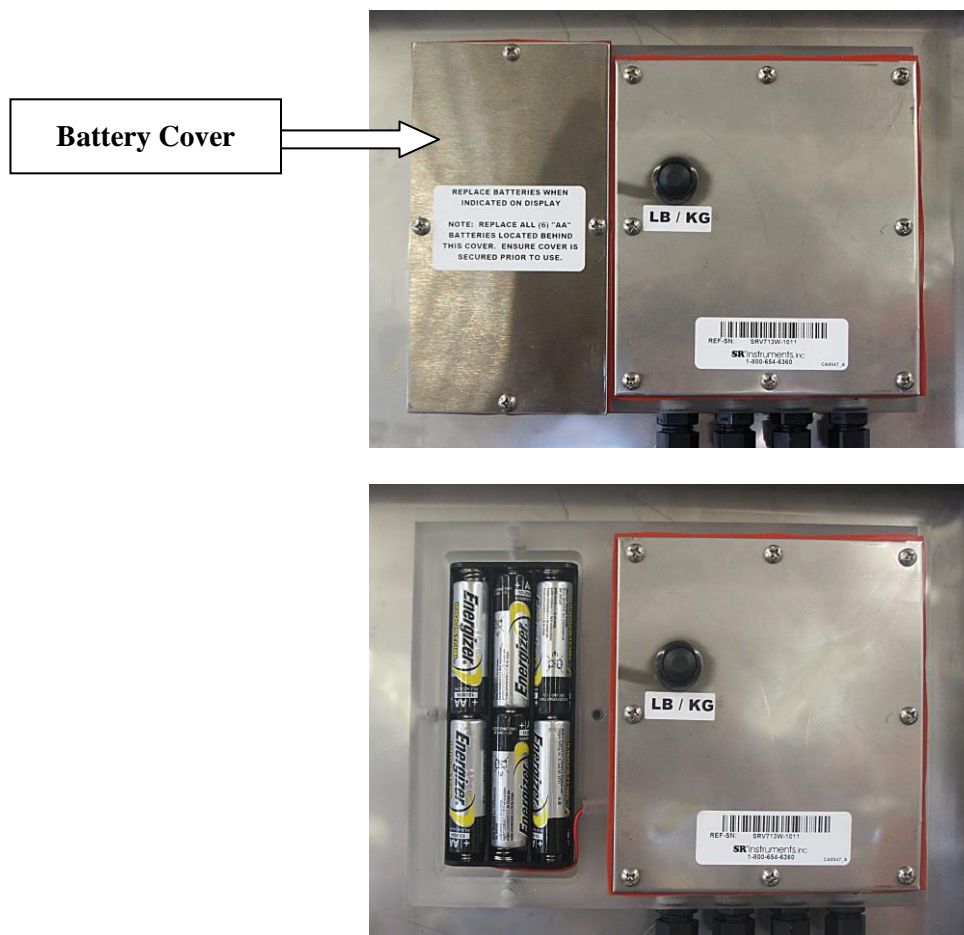

Figure 3: Battery Replacement
STEP 1: Turn the platform over and remove the four screws on the Battery Cover (Figure 3).
STEP 2: Remove and replace the six (6) “AA” cell batteries. Replace the screws in the Battery Cover.
STEP 2: Remove the two (2) screws holding the display housing to the platform
STEP 3: Pull the display out from under the platform and remove the eight (8) screws from the display box cover pictured in (Figure 3).